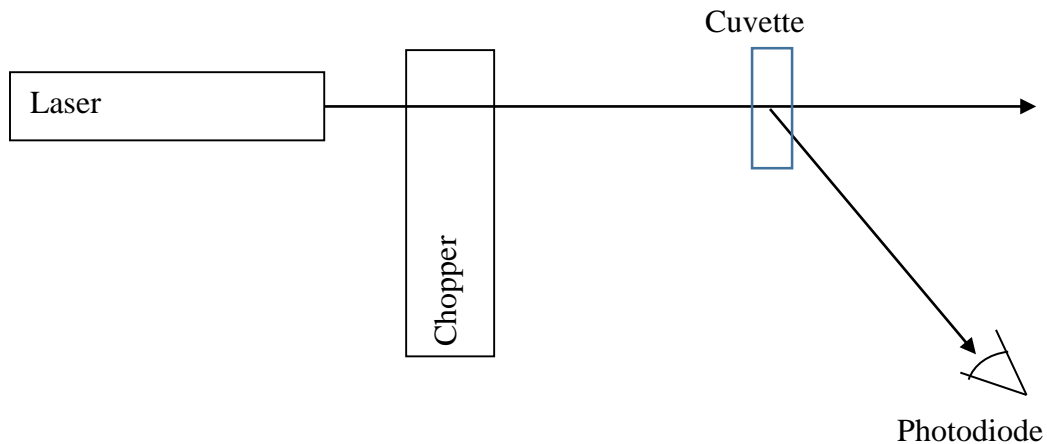

Figure 4: Setup to measure Mie scattering intensity.
- Measure the intensity of scattered light as a function of polar angle as shown in figure 4 by manually moving the photodiode around the optical table and using a protractor.